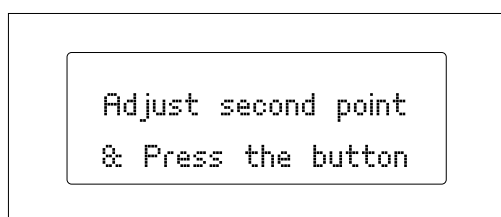
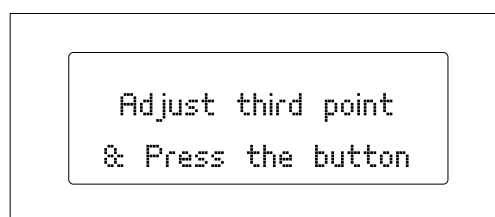

Figure 3.13 Second levelling point
Figure 3.14 Third levelling point
- 3 Press the control wheel again and the extruder will move onto the second calibration point (fig. 3.13). Repeat the process above and then do the same for the third calibration point (fig. 3.14).